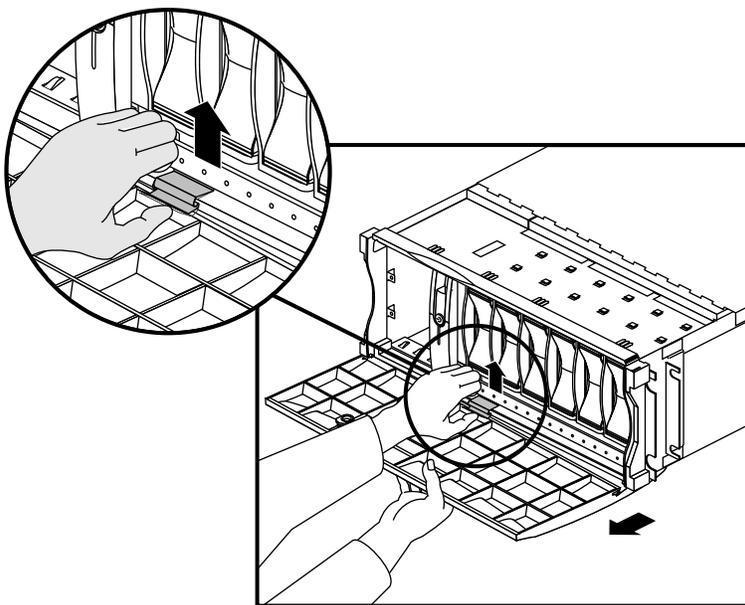

Figure 5-5 Removing the Front Door, Rackmount Configuration
1. Lift the door assist tab (catch), as shown in Figure 5-5.